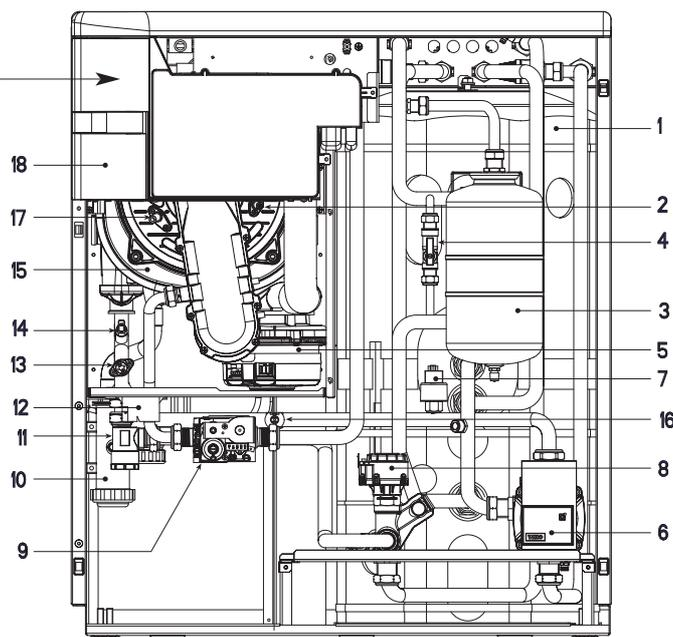

Fig. 3/a
1.5.3 ATLANTIS HM 30/110 ErP (fig. 3/b)